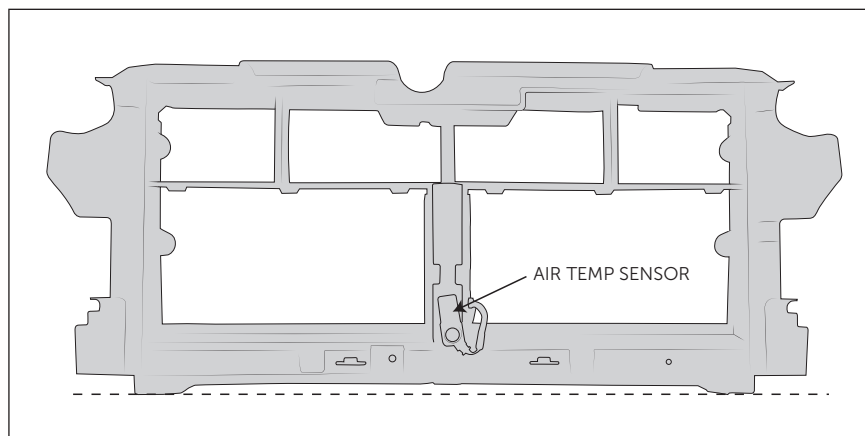

Figure 1
1. Cut off the lower portion of the Factory Grill Support as shown (fig. 1).
2. Drill a 3/16" hole and rivet in Air Temperature Sensor (fig. 1).